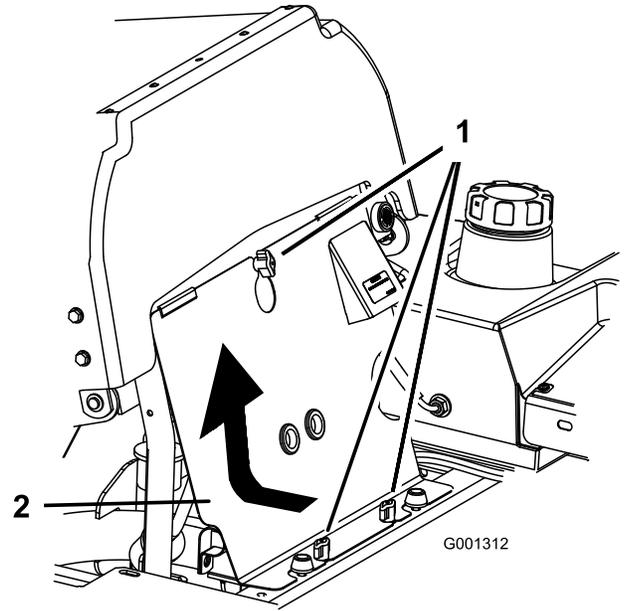

Figure 66
1. Tilt the seat forward and remove the front engine panel (Figure 66).